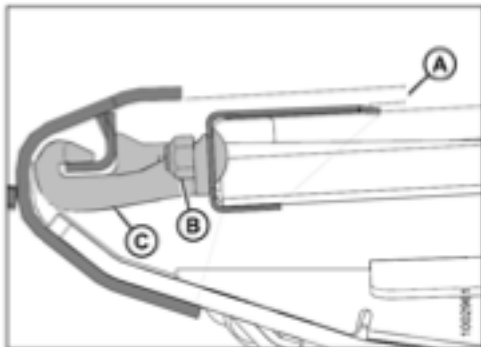

Figure 10.12: Draper removed for clarity
- Adjust deck height (A in Fig 10.12) to be 1 mm greater than belt thickness.